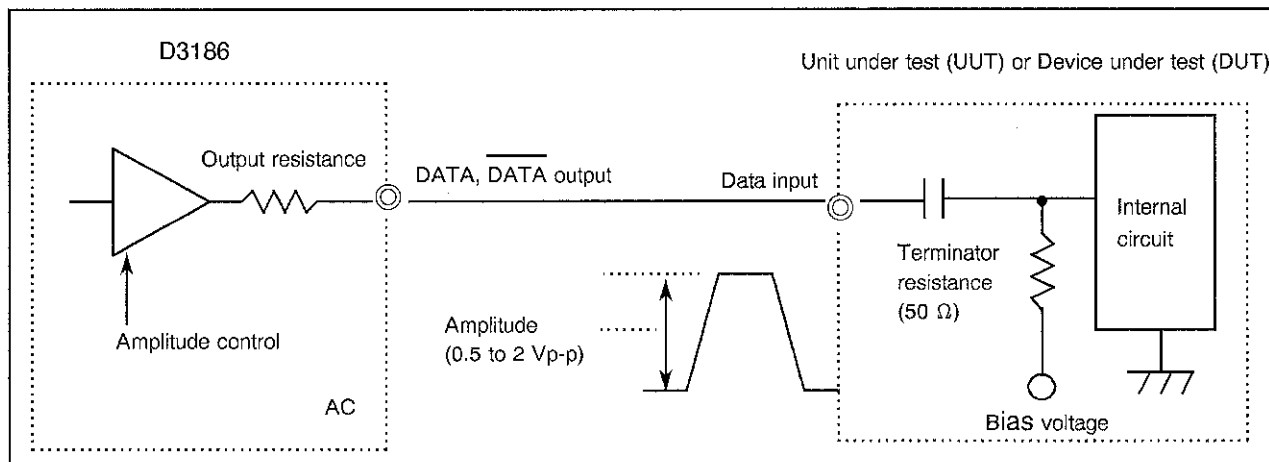

Figure 4-3 DATA and  $\overline{\text{DATA}}$  Output and AC Connection
- (3) When the UUT/DUT data input connection is AC (see Figure 4-3.):